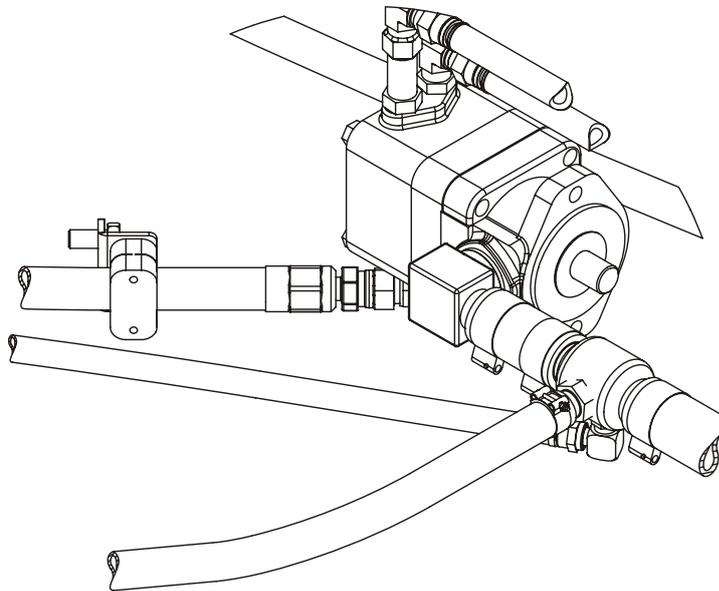

Figure 64 Power Steering Pump
99. The power steering pump (Figure 64) is coupled to the rear of the compressor and is driven by the compressor crankshaft.